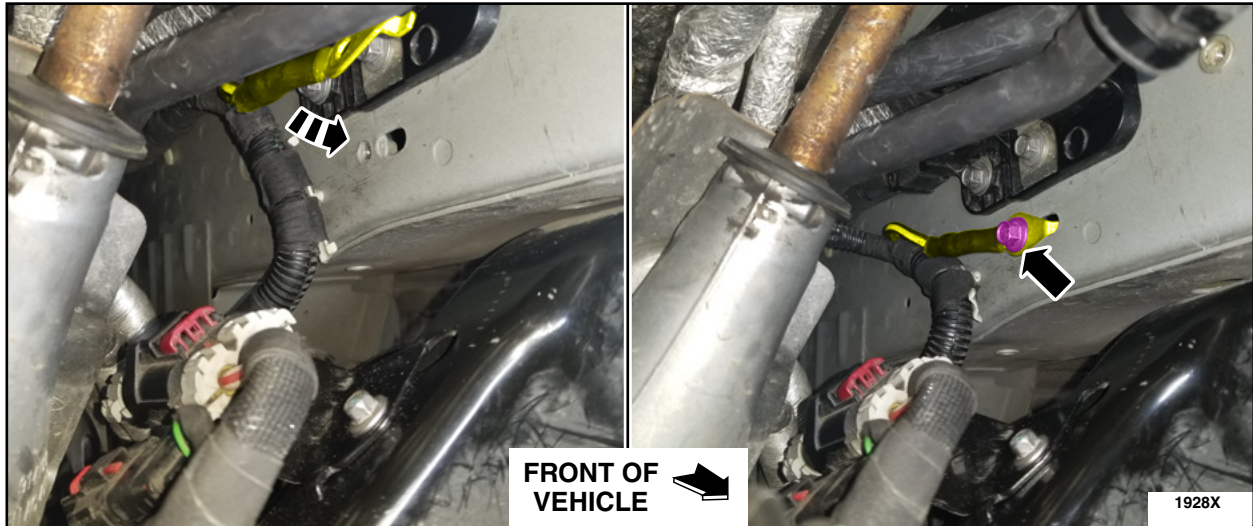

FIGURE 26
27. Position back the ground wire and install the ground wire retainer. See Figure 26.